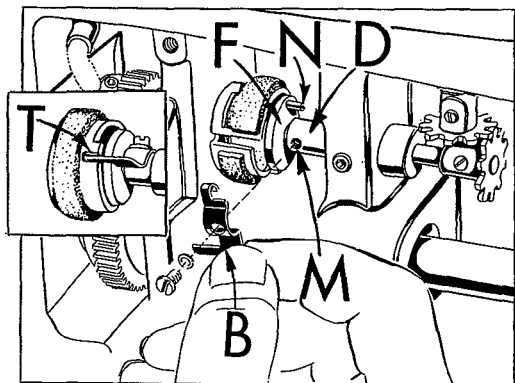

Fig. 26
10. Turn the hook oil control shaft (D, Fig. 26) until screw hole (M) is accessible. Manually rotate pump disc (F) so its stop pin (N) is 90° above screw hole.
11. Rotate metering cup so the short slot (T) is 180° from stop pin (N). Now, install hook oil control finger (B) by first hanging the hooked portion of finger over the stop pin and lowering to insert the projection at bottom left into the short slot of the metering cup. Tighten the finger in place by means of screw and washer, making sure the hook oil control finger does not bind or distort metering cup.